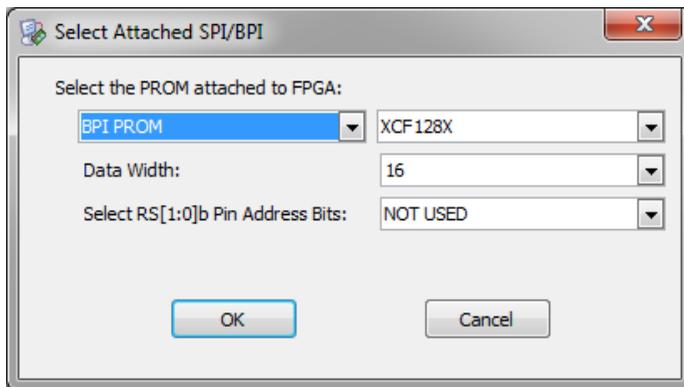

Figure 3-5. Platform Flash Selection in iMPACT
- 11. Another window titled “Select attached SPI/BPI” pops up. Make sure you set the drop down options in this window as shown in Figure 3-5 below and press OK.